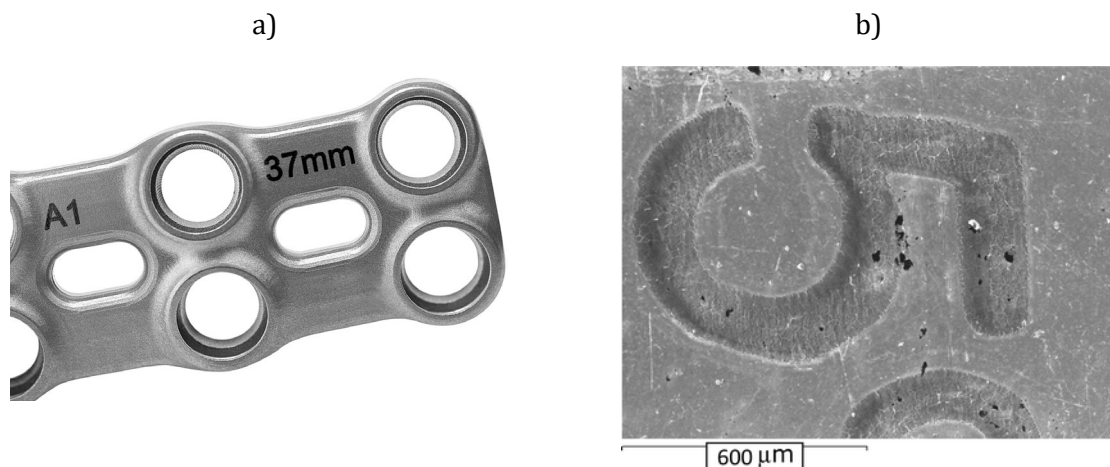

Figure 5. Laser-marked cp-Ti implant; a) bone plate; b) SEM of marked region
- d) In implant production, it is necessary to mark implants with serial, batch, and company numbers, typically achieved through pulsed laser marking. Figure 5 shows a laser marked implant a) as well as the vicinity of a marked zone at higher magnification b)